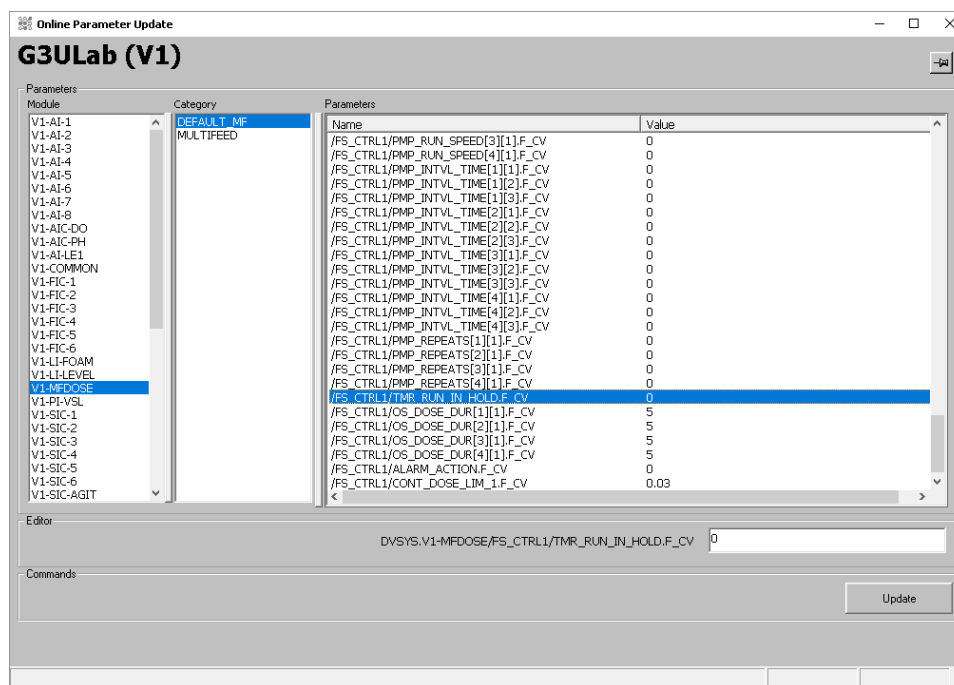

Figure 4.68. Vessel 2 options selected: Module, Category, and Name.
6. Verify that the correct vessel is displayed. Figure 4.68 shows “Vessel 2” selected.
7. Under the “Module” column (first from the left), locate and click the string “**Vx-MFDOSE,**” with x being the vessel number (Figure 4.68).
8. Under the “Category” column, click “**DEFAULT_MF**” (Figure 4.68).
9. Under the “Parameters” column, listed in the “Name” column (third from the left), locate the string “**/FS_CTRL1/TMR_RUN_IN_HOLD.F_CV**” (Figure 4.68).